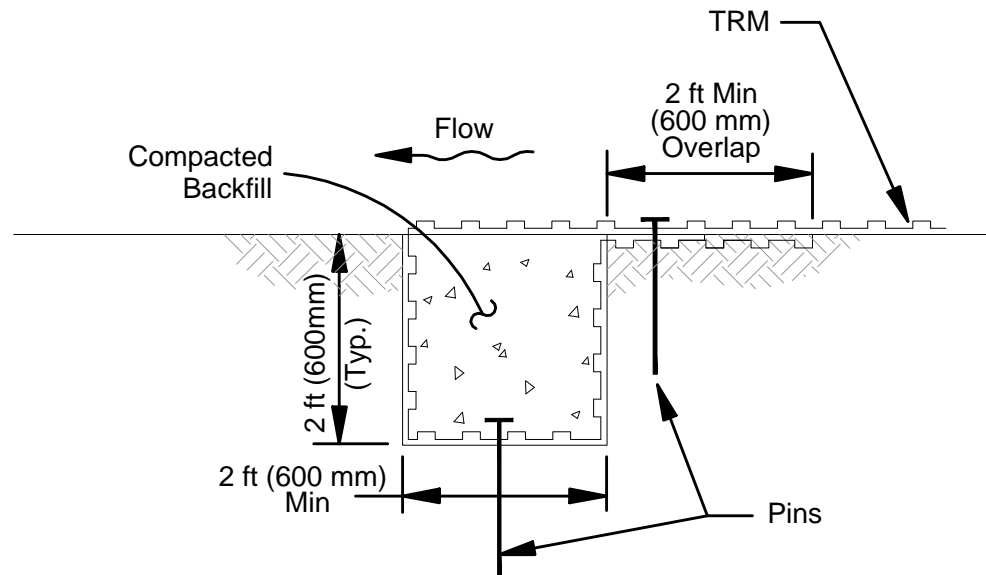

FIGURE 2: INITIAL TRENCH
- Excavate an initial trench 24 in wide x 24 in deep (600 x 600 mm) minimum across the channel at downstream end of project (see Figure 2). Deeper initial trench and/or hard armoring may be required in channels that have the potential for scour.
- Beginning at the centerline of the channel, place roll end into the initial trench (with 24 in (600 mm) minimum lap) and secure with pinning devices on 12 in (300 mm) centers (see Figure 2). Position adjacent rolls and secure in trench in same manner. Backfill and compact soil into trench as directed and approved by Engineer.
- Secure initial trench lap with pinning devices on 12 in (300 mm) centers (see Figure 2).